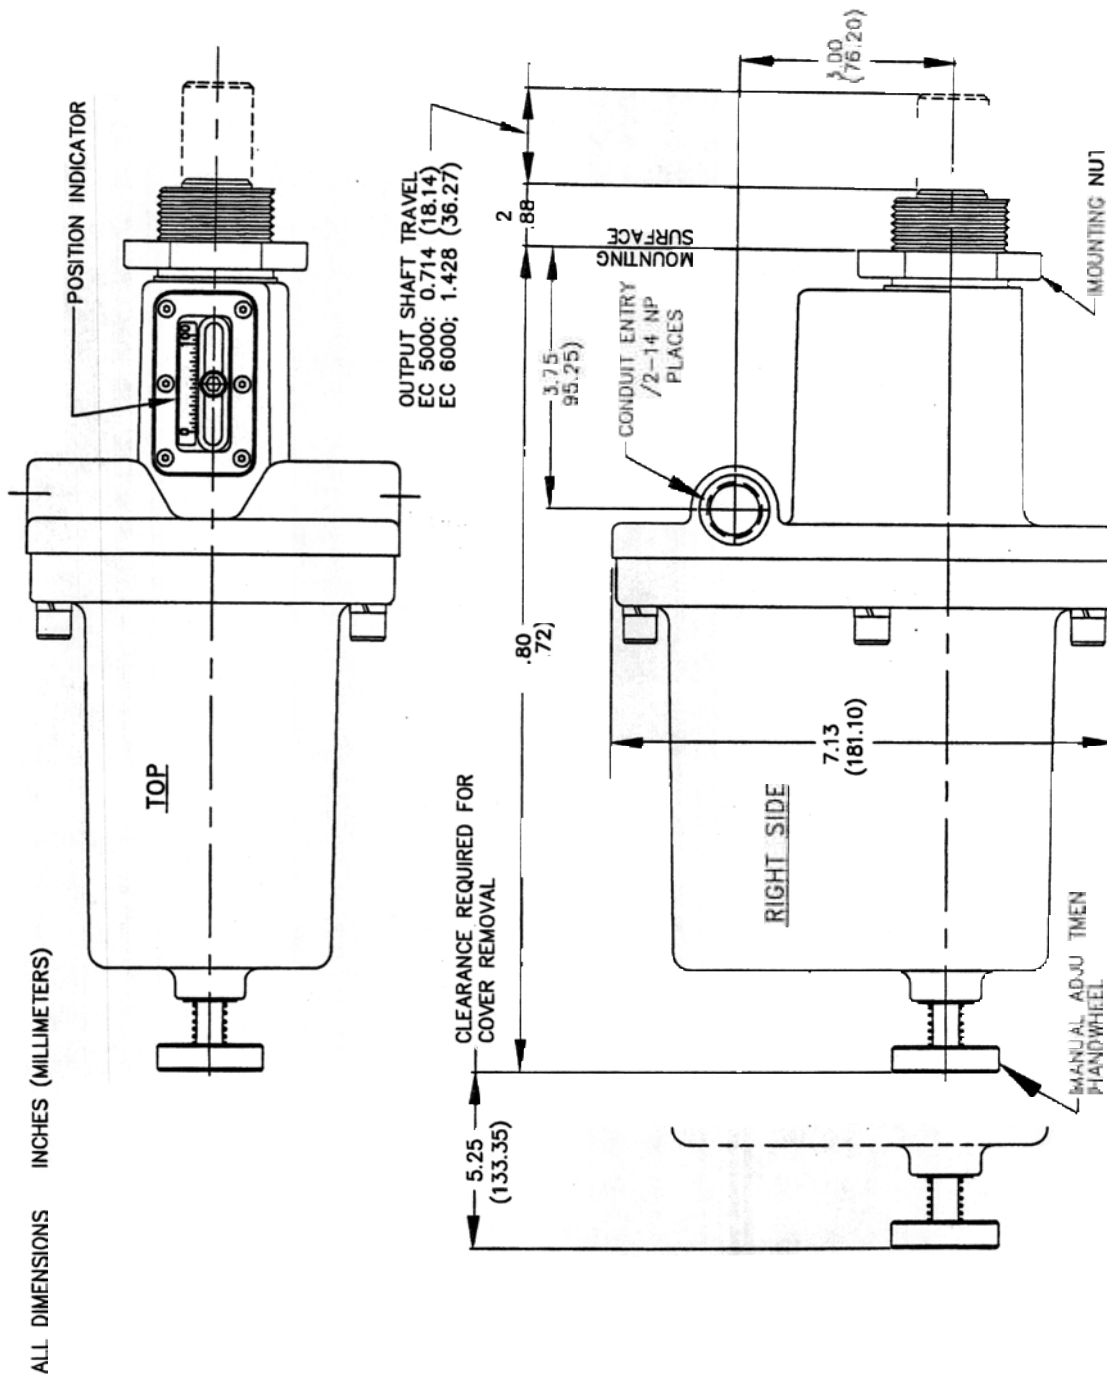

FIGURE 2 OUTLINE DIMENSIONS
- 2.6 CONDUIT: The Stroke Controller-Positioner has two 1/2"-14 NPT conduit entrances toward the rear of the housing – see Figure 2. It is recommended the left conduit entrance be used for AC power wires, and the right for low level and signal wiring. Conduit runs should be routed so that moisture and condensation cannot drain into housing.